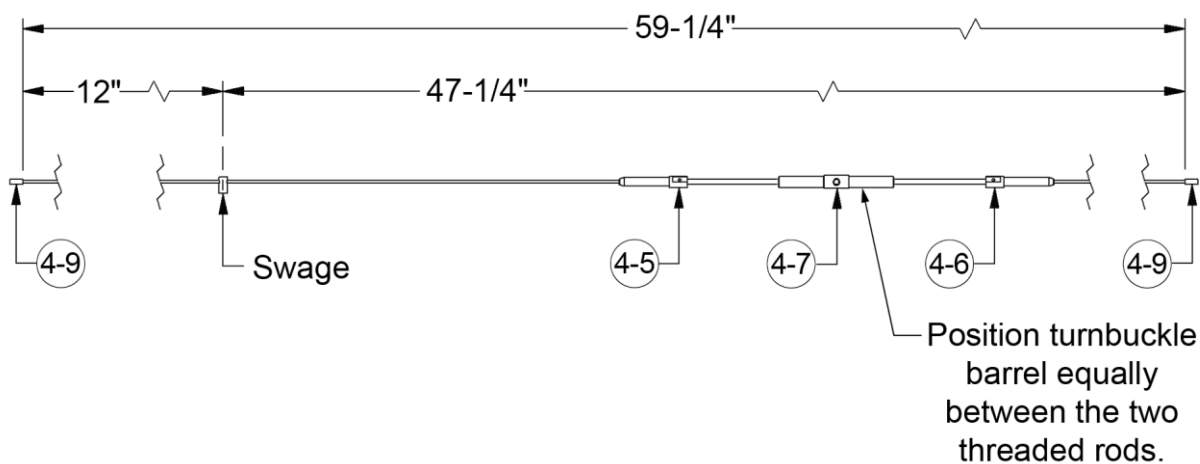

Figure 5: Preparing Bridle Cable
3. Cut bridle cables to length and assemble, as shown in Figure 5.
4. Crimp swage stops on bridle cables (see Figure 5), and then trim bridle cable ends flush with outside edge of swage stops.